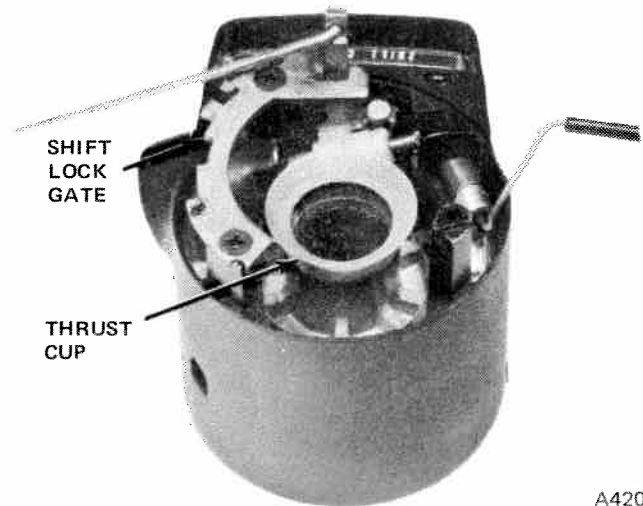

Fig. 11-11 Thrust Cup Position
(21) Remove thrust cup from upper housing (fig. 11-11).